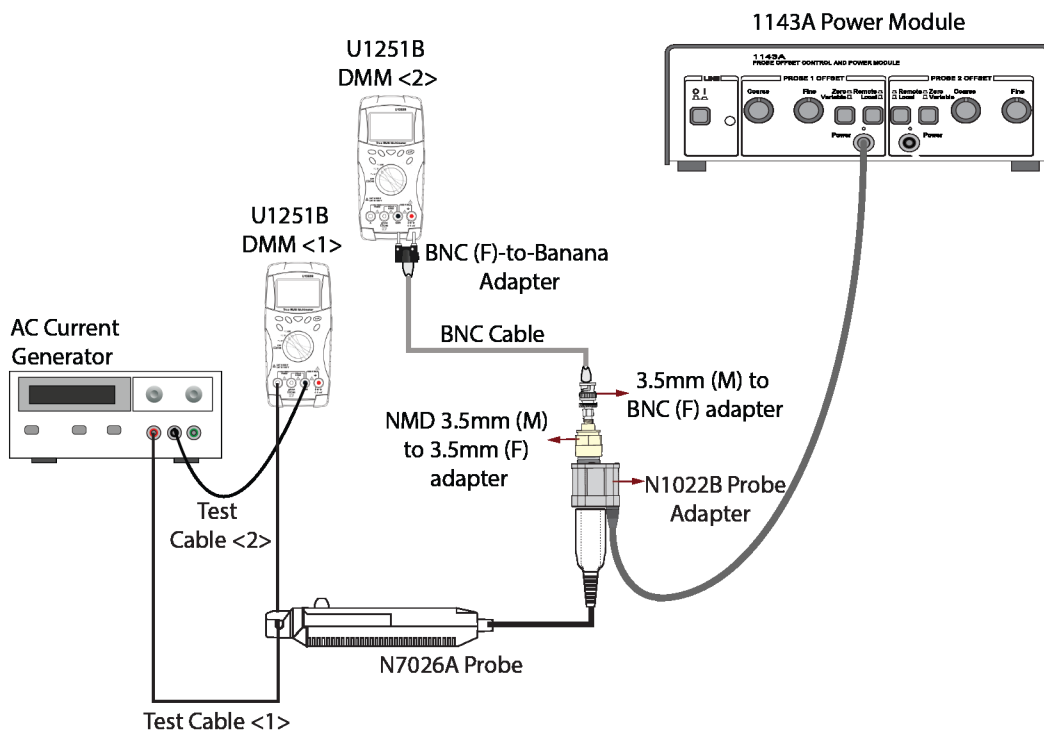

Figure 13 Complete Test Setup
- 10 As displayed in Figure 13, connect a BNC cable to the:
- a N1022B adapter's output using the NMD 3.5mm (M) to 3.5mm (F) adapter and 3.5mm (M) to BNC (F) adapter.
- b DMM <2> using a BNC (F)-to-banana adapter.